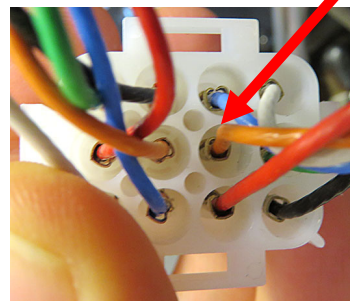

Figure 23
24. Insert the orange wire into Pin 5 (see Figure 23).